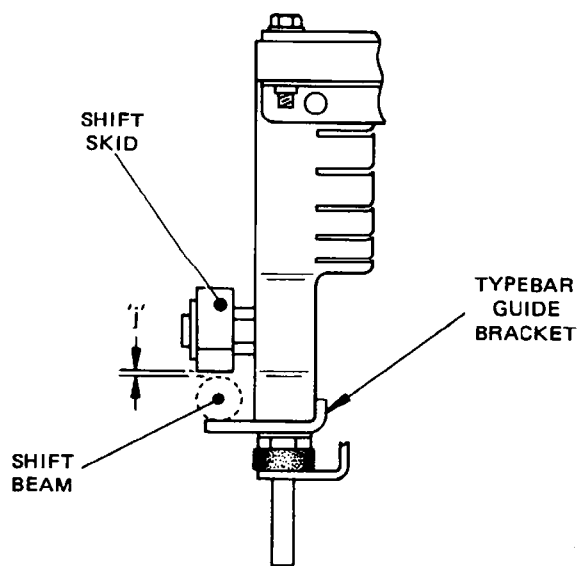

Fig. 4.10 TYPEBAR MECHANISM (LEFT-HAND SIDE VIEW)
- 12.1 Insert the function unit shift beam, Fig. 4.10, between the shift skid and the typebar guide bracket. Check that the clearance between the beam and the skid does not exceed 0.004 inch (dimension 'j').